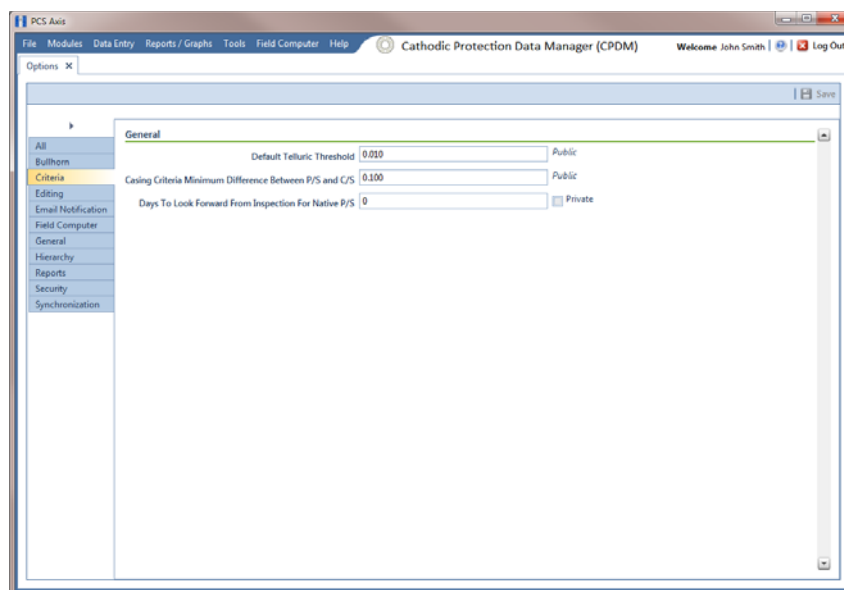

Figure 3-7. Criteria Options
- 1 If the *Options* window is not open, click **Tools > Options** to open the window. Then click the **Criteria** tab to open the *Criteria* options page (Figure 3-7 (page 41)).